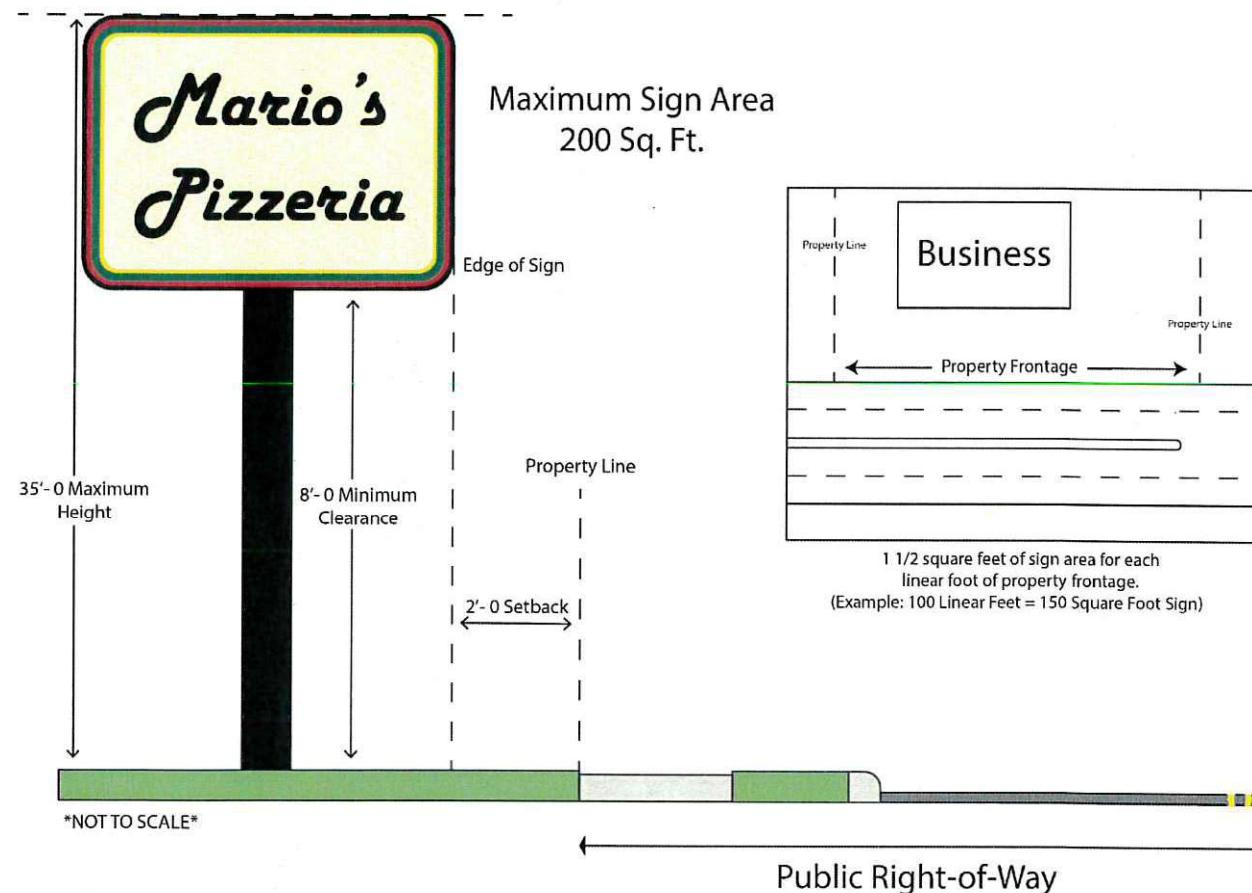

Figure 22
1. One detached on premises sign for each developed parcel not exceeding one and one-half (1 $\frac{1}{2}$) square feet of sign area for each linear foot of street frontage. No sign may exceed a total sign area of two hundred (200) square feet per side (*See Figure 22*). A maximum of two sides are allowed.
2. If a developed parcel has in excess of two hundred (200) linear feet of street frontage, additional signs may be allowed, provided the distance between detached signs on each parcel may not be less than two hundred feet (200') as measured in a straight line;
B. Attached Signs for Each Occupancy: On premises signs may not exceed a total of three (3) square feet of sign area for each linear foot of building frontage. (Ord. 07-30 § 2)